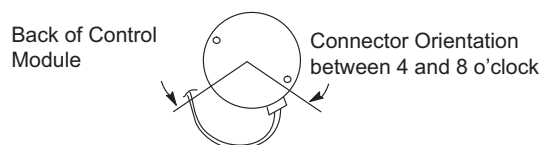

Figure 17.
- 5 - The electrical connectors of the motor should be facing down to form a drip loop (**Figure 17**). This will direct moisture away from the motor and its electric connections on the motor.